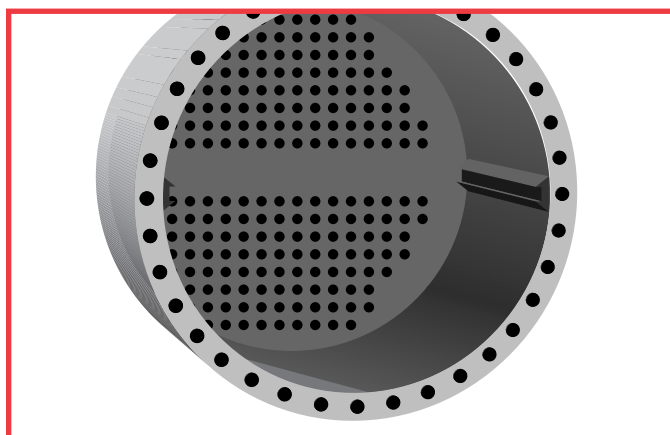

Figure 34. Apply two coats of epoxy to the tube sheet.
3. **Apply Loctite® Brushable Ceramic in two coats.** After the first coat, wait 1-3 hours and recoat again. The two-coat system helps fill any voids missed after the first coat. (See figure 34)